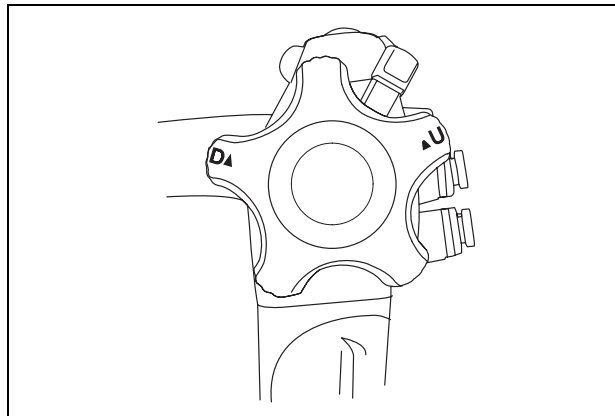

Figure 3.7
4. When the UP/DOWN angulation control knob is turned to its neutral position as shown in Figure 3.7, confirm that the bending section returns smoothly to an approximately straight condition (for GIF-N180 only).